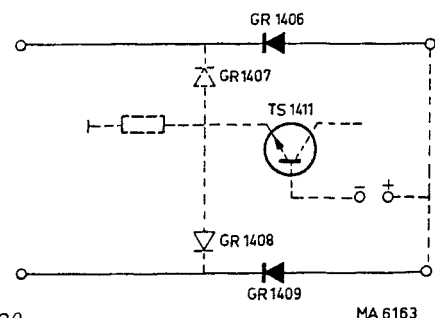

Fig. 20.
The same applies to the emitter voltage of transistor TS411. If this voltage is low, the signal currents reach the input of the common amplifier (Fig. 20).
1. Base TS1411 negative (Fig. 20):